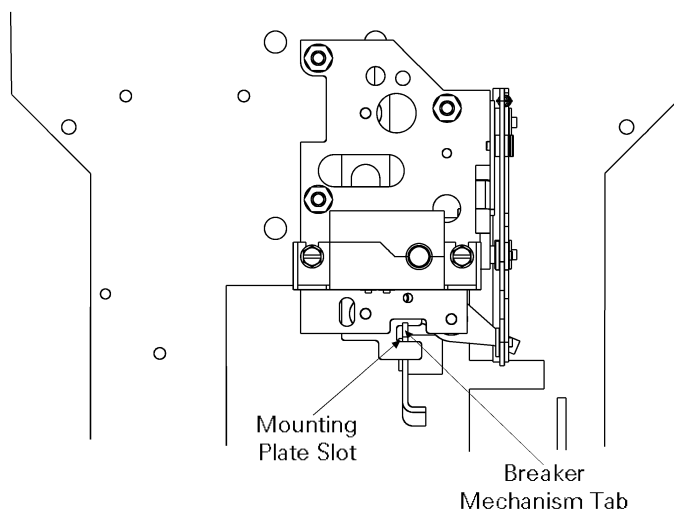

Figure 8-4. Front view of the bell alarm installation, showing the breaker mechanism tab engaging the mounting plate slot.
1. Place the bell alarm mounting plate over the three standoffs on the breaker front frame and secure with three lock washers and nuts. Ensure that the actuating tab from the breaker mechanism engages the slot in the bottom of the mounting plate, as illustrated in the front view in Figure 8-4.